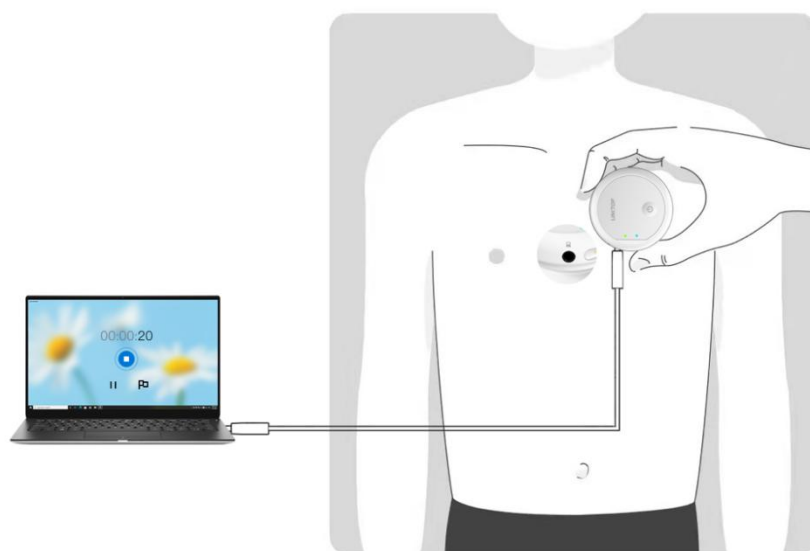

Figure 5
- (1) Select the auscultation site and confirm whether to auscultate the lung or the heart.
- (2) Putting the stethoscope membrane (Figure 5) to the patient's body at specific spots indicated by the doctor, and holding it at each spot, click the start button in the application to record until the auscultation time is sufficient, click the stop button to end the recording.